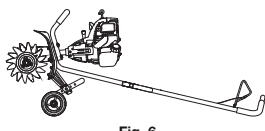

Fig. 6
2. Place the unit in a horizontal position to get a proper oil level reading (Fig. 6).